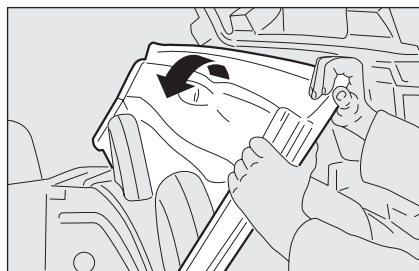

fig. 69
- ❑ lift the top and lay it on the front cross piece checking that the hooks of the locks are open on the vertical position **fig. 69**;